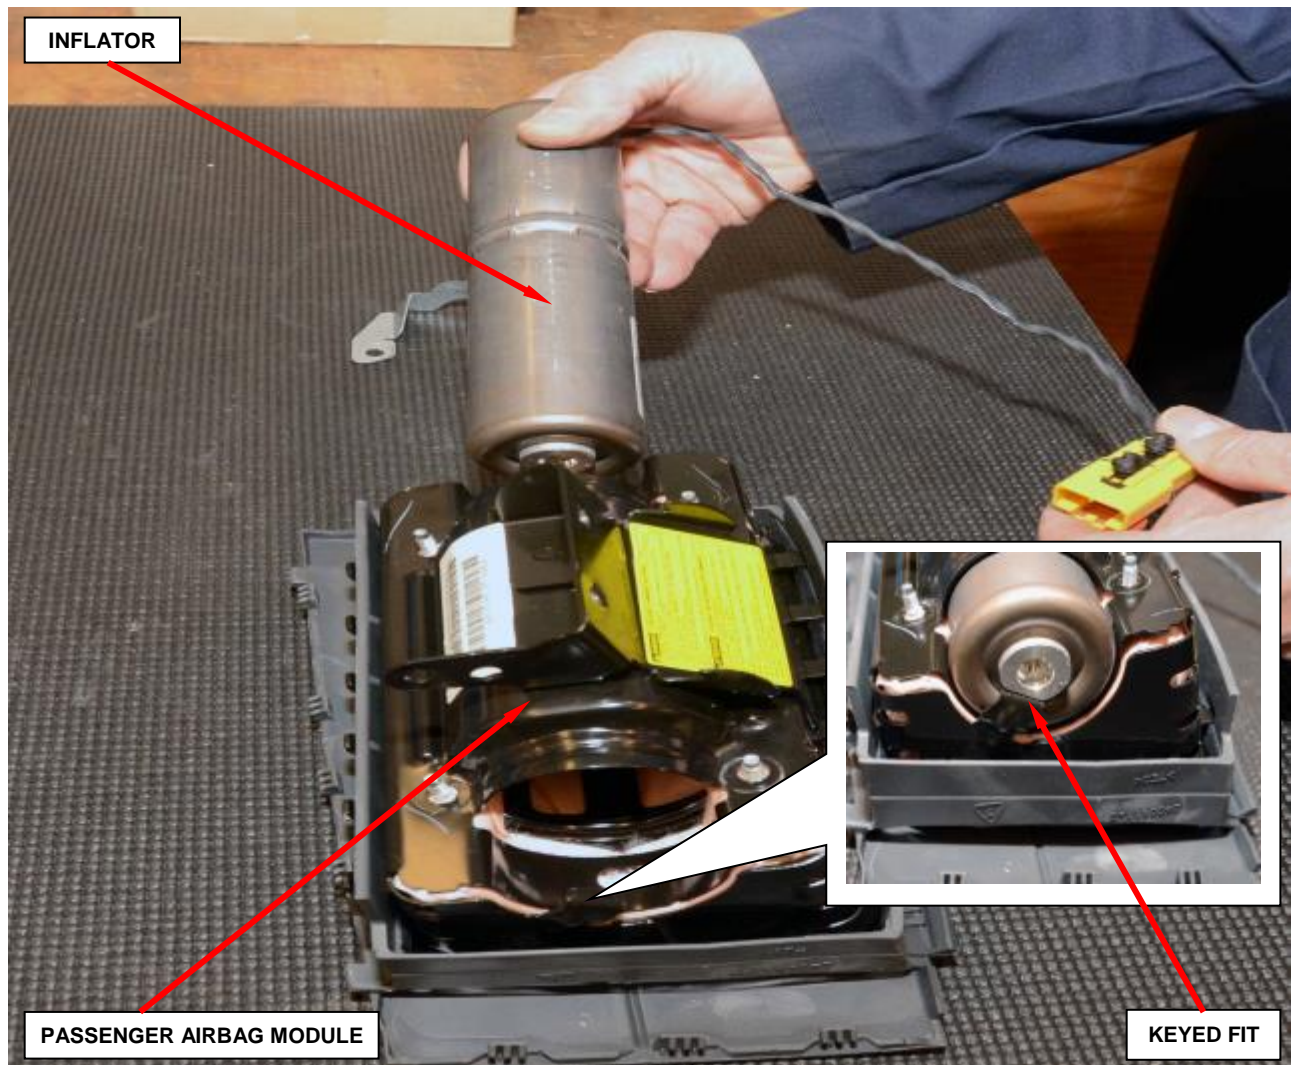

Figure 98 – Passenger Inflator Installation
NOTE: The inflator's key MUST line up with the housing's key (Figure 98).
- o. Slide the **new** inflator into the passenger airbag module (Figure 98).
NOTE: The inflator is keyed to fit into the housing (Figure 98).